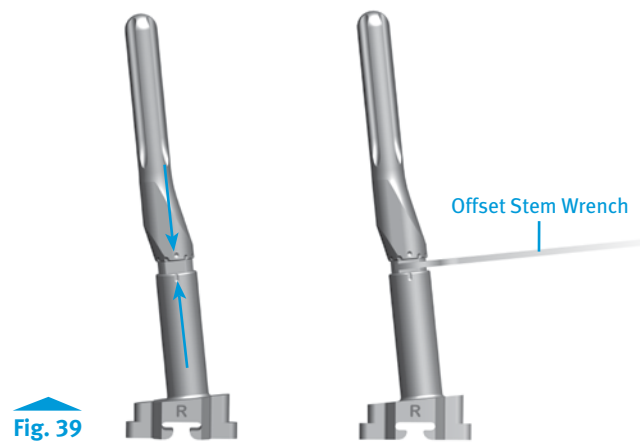

Fig. 39
- Rotate the Offset Stem Extension Provisional so the appropriate number is lined up to the position noted earlier (Fig. 39).